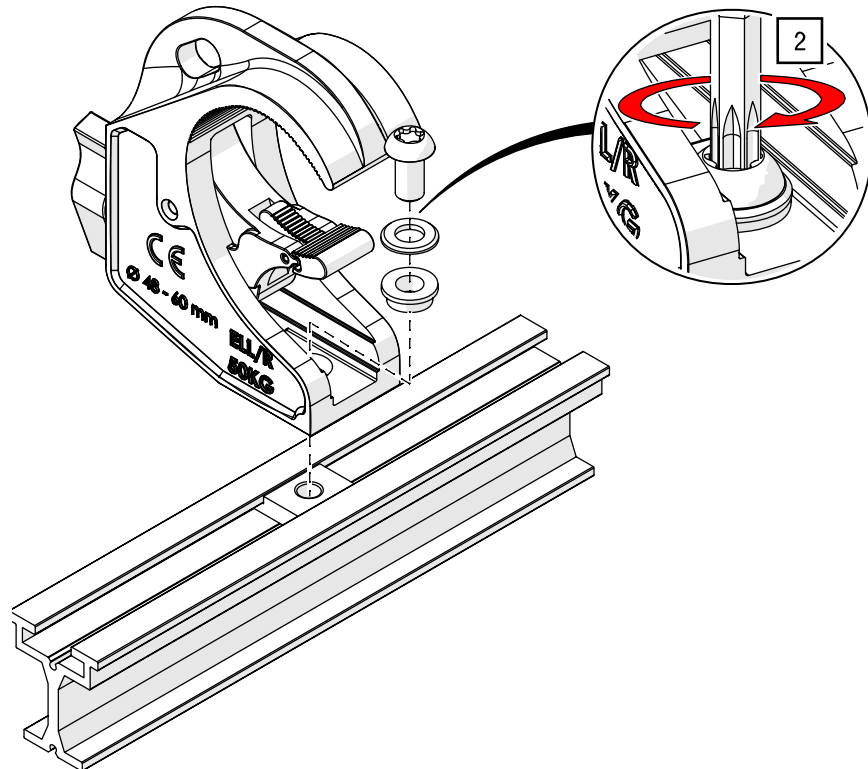

Fig. 58: G-CLAMP direct – Assembly with slot nut
2. Screw the G-CLAMP hook to the slot nut on the track profile using a TORX®-key T40 and 27 Nm (see Fig. 58).